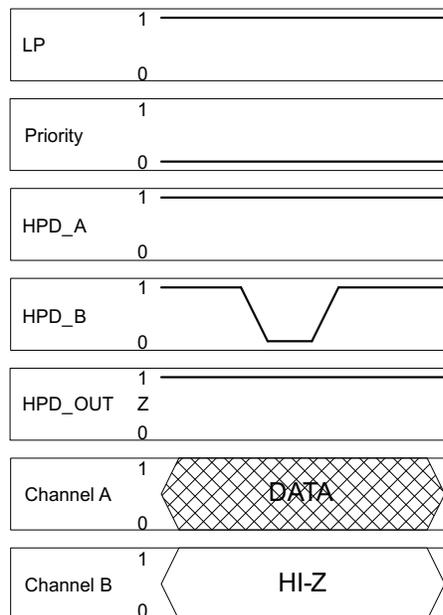

Figure 24.
- Case one: In this case the HPD input that is initially HIGH is from the port that has priority. Since the port with priority is already selected, any activity on the HPD input from the other port doesnot have any effect on the switch whatsoever (see Figure 24).